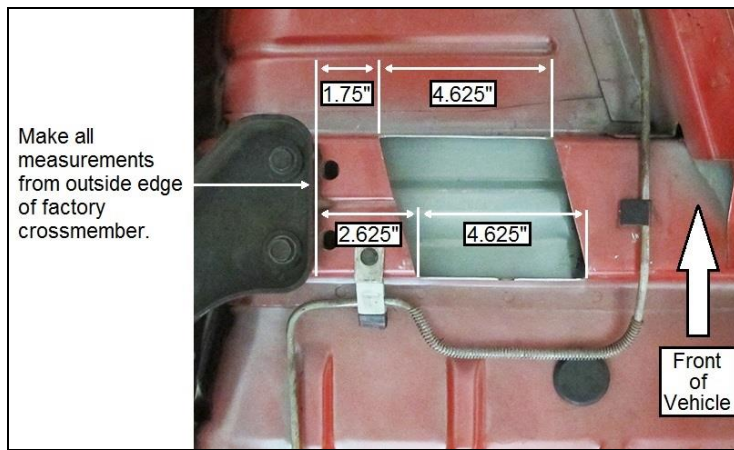

Figure 1
3. Layout/mark a cut pattern onto the driver's side floor brace under the car, per the dimensions shown in **Figures 1 and 2**.